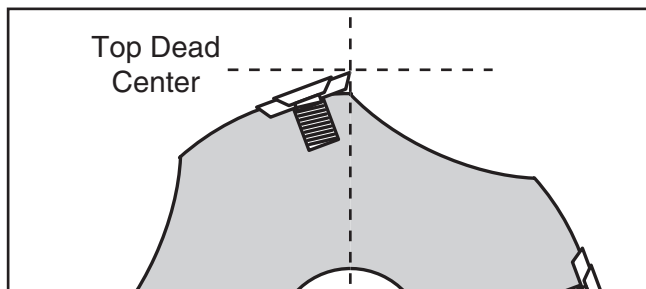

Figure 45. Cutterhead insert at top dead center.
4. Open cutterhead pulley cover and rotate cutterhead pulley until one cutterhead insert is at top dead center (its highest point during rotation), as shown in **Figure 45**.